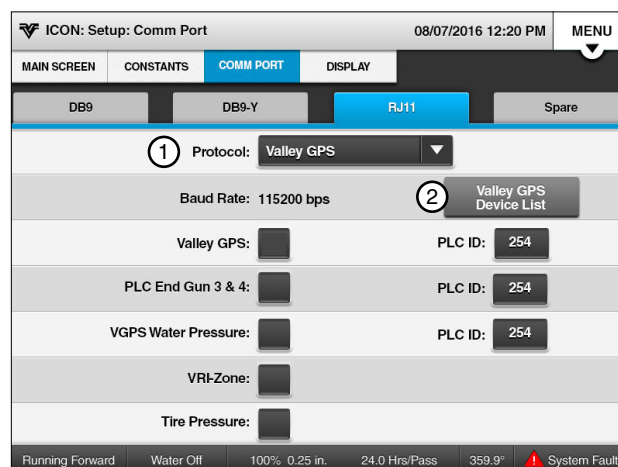

Figure 41-2 1. RJ11 Protocol (Valley GPS)
- Push the **Valley GPS Device List** button. See Figure 41-2.